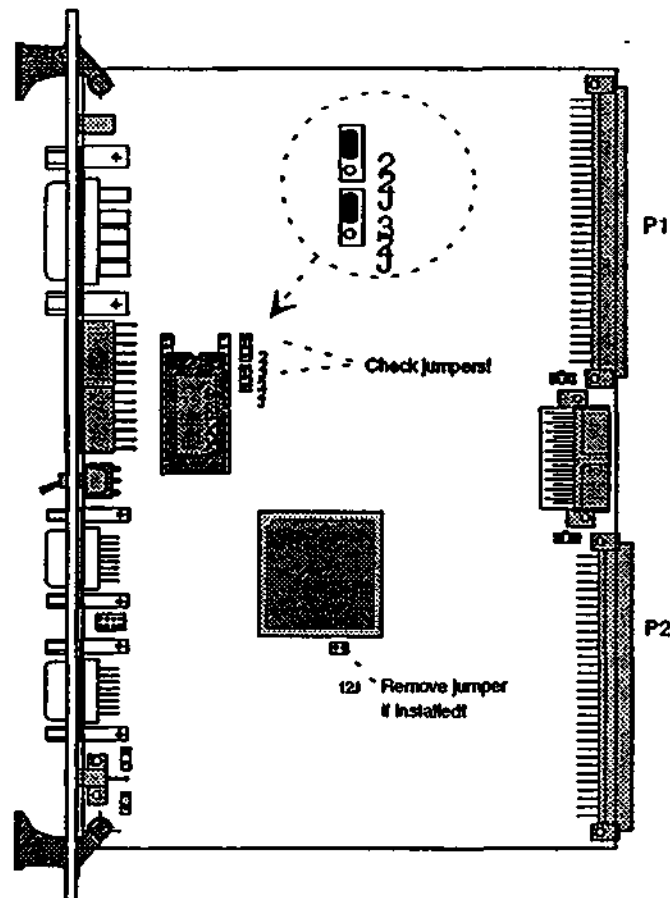

Figure A2. Boot PROM position and jumper settings.
**Note:** *Please note that boards with FW version lower than 4.99.08 do not have a Boot PROM installed, they are normally run entirely out of FLASH PROMs alone. In these cases, the jumper J21 must be removed when a boot PROM is installed. (see figure A2).*
- Check that the position of the jumpers J22 and J23 are installed as shown in figure A2 below.
- Insert the new boot PROM into the 32-pin socket. If the boot PROM is a 28-pin device, leave four vacant pins closer to the pin 1 marking (see figure A2 below). The pin 1 is marked with a little "notch" in the silk
**No response?** If the text mentioned above does not appear in the LED display, check that the Boot PROM is the right version and is inserted in the proper direction and position (see figure A2), and that no pins are bent.